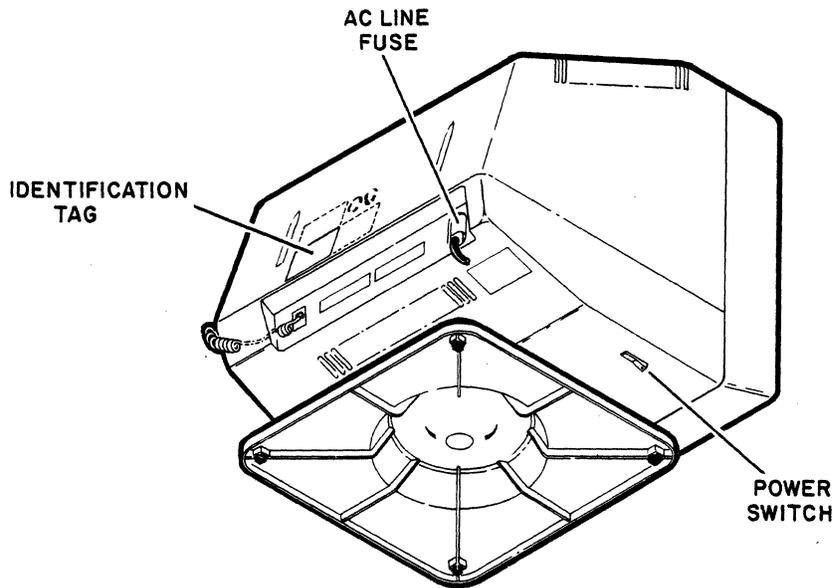

Figure 2-2. Operator Controls and Identification Tag
The operator controls on the terminal (figure 2-2) include the:
*The part number of the terminal appears on the identification tag shown in figure 2-2.